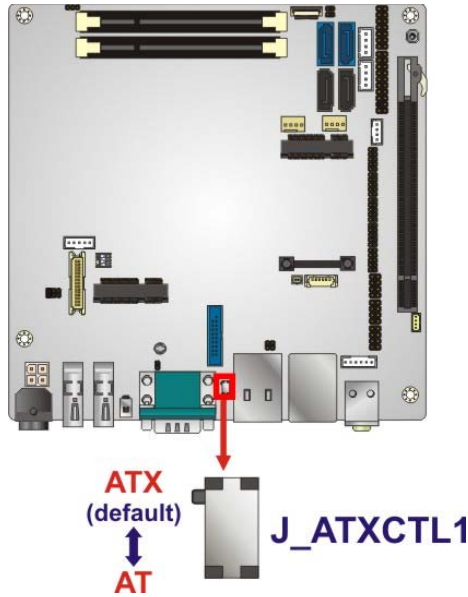

Figure 4-8: AT/ATX Mode Selection Jumper Location
- Jumper Settings:** See Figure 4-8
- Jumper Location:** See Figure 4-8